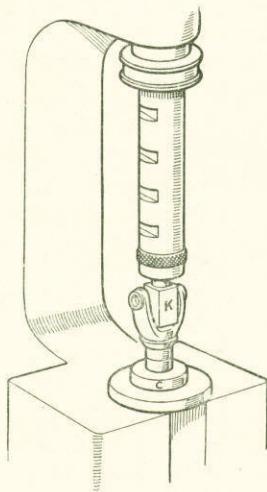

Fig. F-25—Assembling the half shaft.
4. Place the roller race inner member and a new retaining collar over the half shaft with the chamfer towards the splined end; stand the shaft on end and press the race inner member and collar on to the shaft until the race inner member abuts the conical distance piece. The necessary press blocks C and K, Part No. 245178, are illustrated at Fig. F-25.